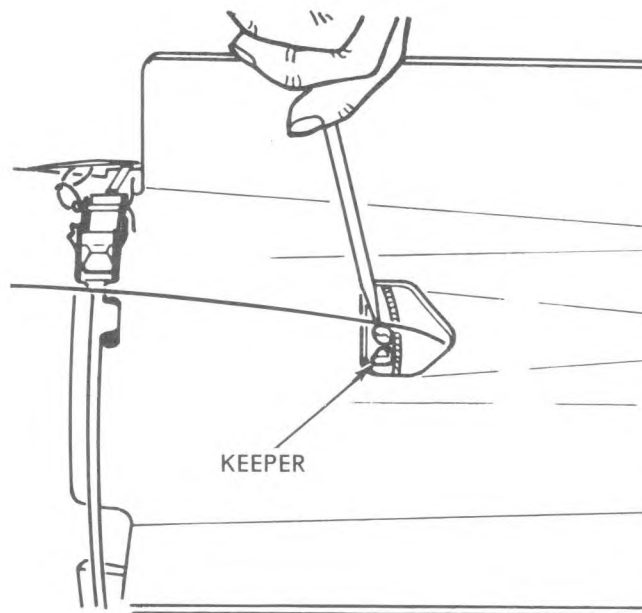

Figure 3-33. Retaining Ring Ears Feed with Screwdriver
13. With screwdriver, rotate keeper on retaining ring to free ears or ring (figure 3-33).